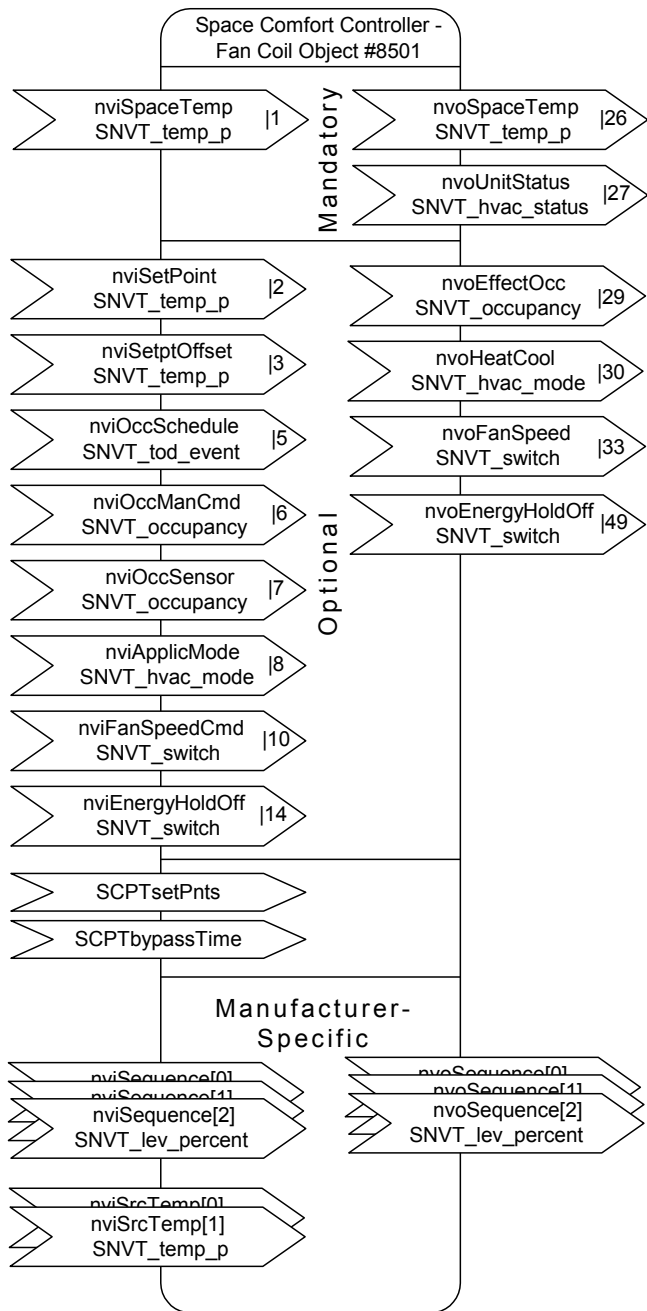

Fig. 12. FCU Controller Object
- one space comfort controller object (#8501 SCC – Fan Coil) (see Fig. 12)